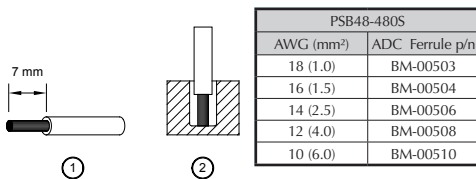

Figure 4
(1)	0.82 - 5.3	18 - 10	0.45	3.96
(2)	1.3 - 5.3	16 - 10	0.45	3.96
To secure reliable and shock proof connections, the stripping length should be 7 mm [0.28 in] (see Fig. 4 (1)). Please ensure that the wires are fully inserted into the connecting terminals as shown in Fig. 4 (2).